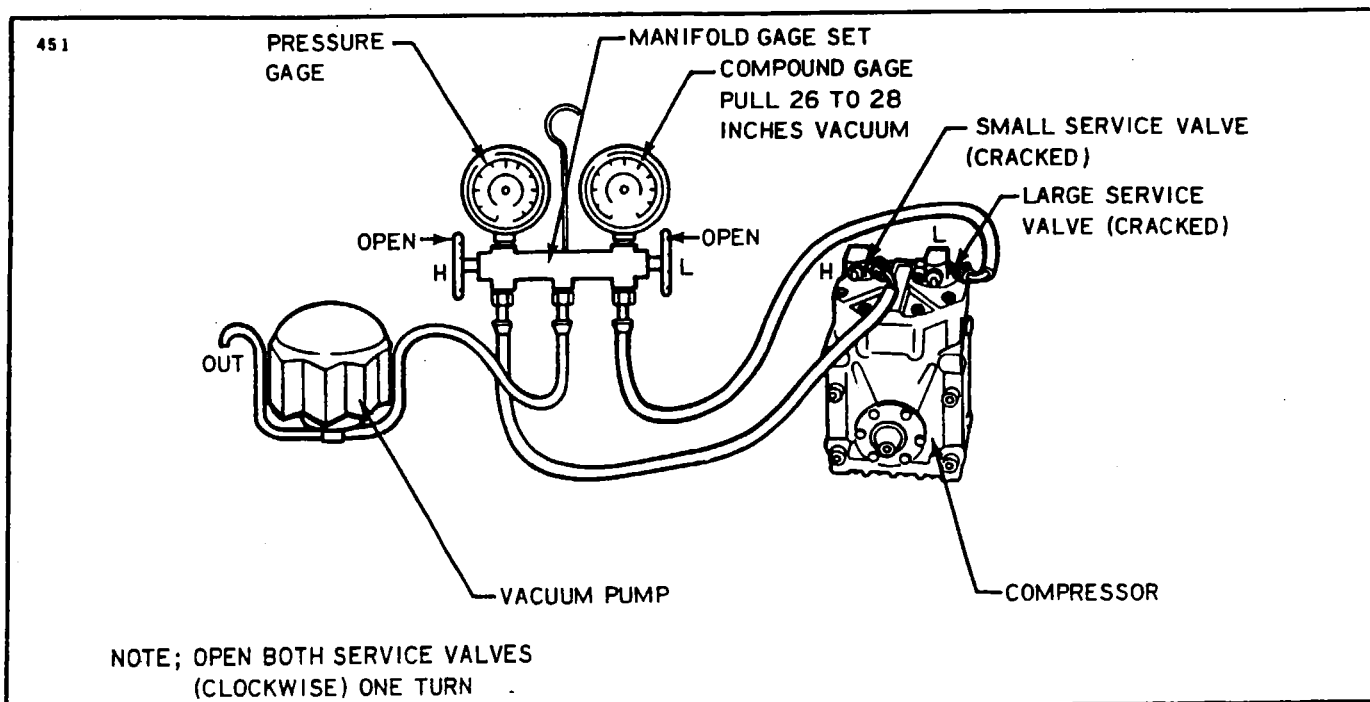

Figure 13-25. Evacuation Hookup
- b. Connect the manifold gauge set to the airplane compressor. (Refer to Figure 13-25.)
- f. Open both service valves on the compressor to the cracked position. (Refer to Figure 13-25.)